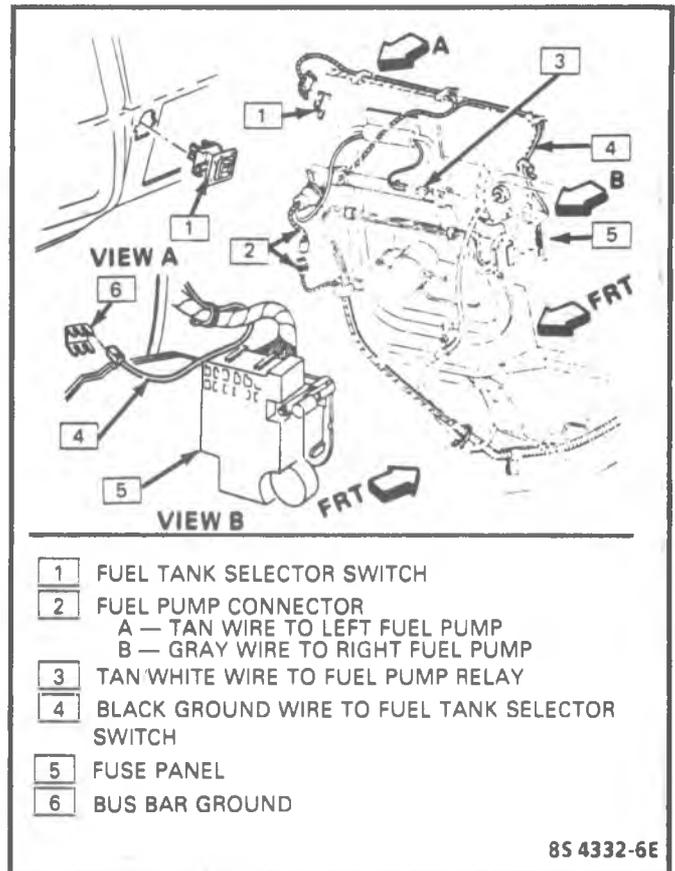

Figure 3 - 13 Fuel Tank Selector Switch
1. Disconnect fuel pump connector (Figure 3 - 13).
2. Disconnect fuel tank selector valve and meter switch connector (Figure 3 - 14).
- If there was no indication in either position, check for an open circuit from terminal "B" to the fuel gage. Make sure that the two terminal connector, with one pink wire that is located near the selector valve (Figure 3 - 15), is correctly connected.